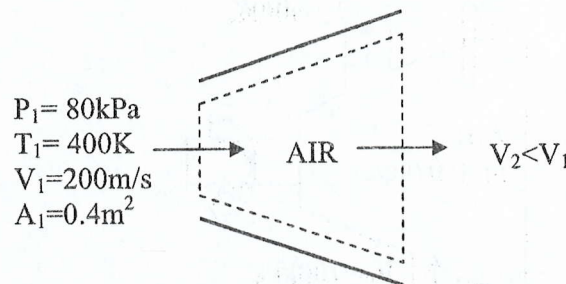

Figure 1: Schematic for a diffuser system
- (b) Air at 10°C and 80kPa enters diffuser of a jet engine steadily with a velocity of 200 m/s . The inlet area of the diffuser is 0.4 m^2 . The air leaves the diffuser with a velocity that is very small compared with the inlet velocity (refer Figure 1).